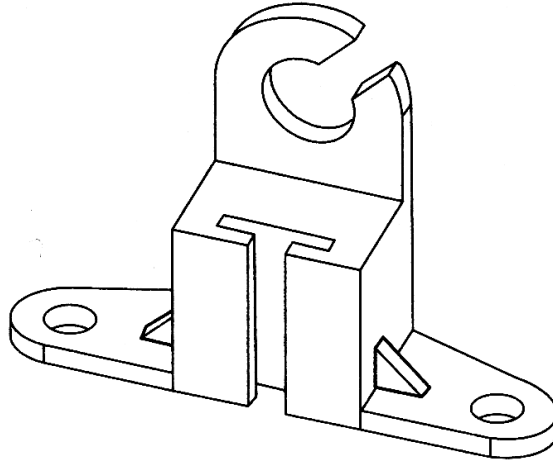

Figure 1
- (b) You are given the task of making a surface model of the object shown in Figure 1. Provide clear guidelines for this task. You may draw necessary sketches. 07
- Q.4** (a) Show the construction tree for the CSG approach to make solid model of the guide bracket shown in Figure 1. 07
(b) Select a suitable solid-modeling approach and state the step-by-step procedure to construct the solid model shown in Figure 1. 07